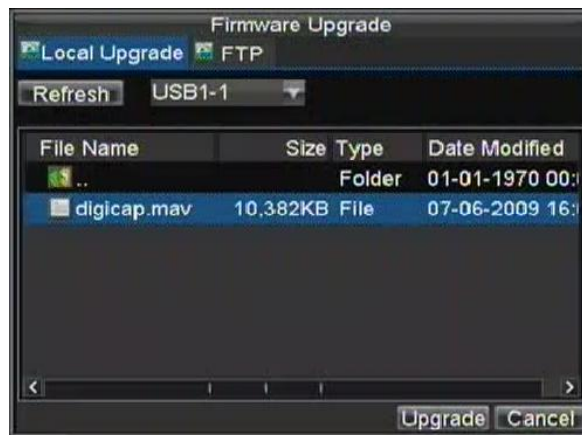

Figure 11. Firmware Update Menu
2. Enter the Firmware Update menu, shown in Figure 11 by clicking Menu > Maintenance > Upgrade.